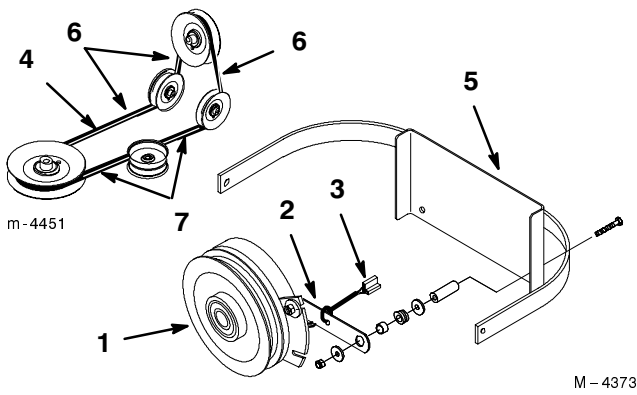

Figure 63
2. Remove the clutch retaining strap from machine frame and unplug clutch terminal from wire harness (Fig. 63).
3. Remove PTO drive belt from rear idler arm and front idler pulley assembly. Remove the PTO drive belt (Fig. 63).
4. Place new drive belt over clutch, around rear idler pulley, installed into rear idler arm assembly, installed into front idler pulley assembly and onto top center pulley (Fig. 63).
- Important** Check the amount of twist in belt between pulleys. Make sure it is only what is specified in figure 63.
5. Install clutch retaining strap and plug clutch terminal into main wire harness (Fig. 63).